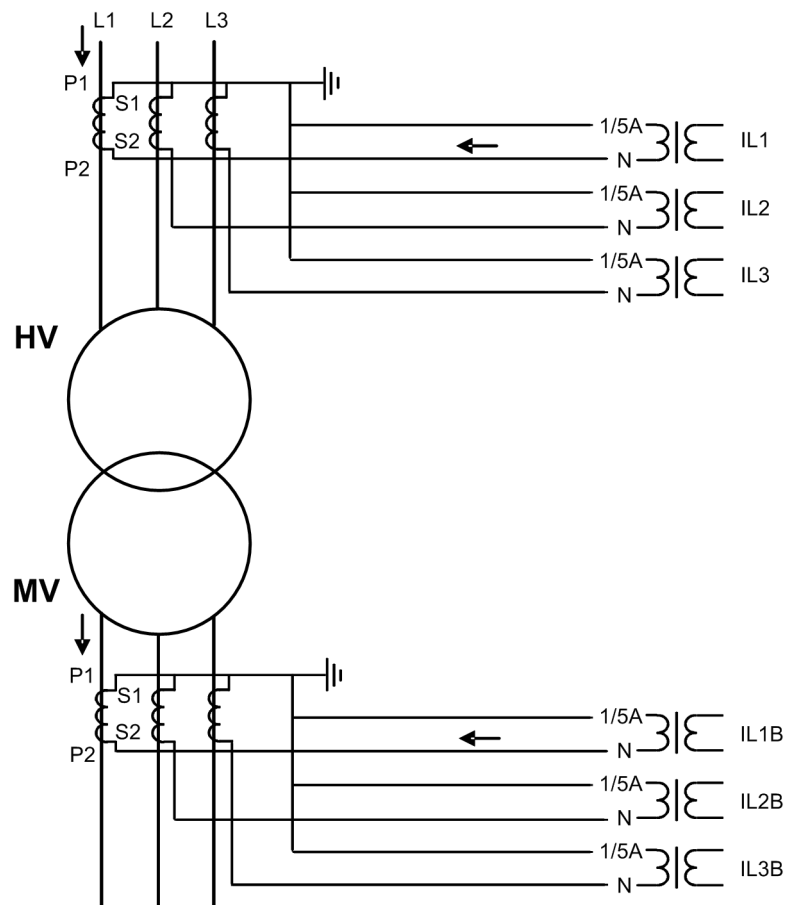
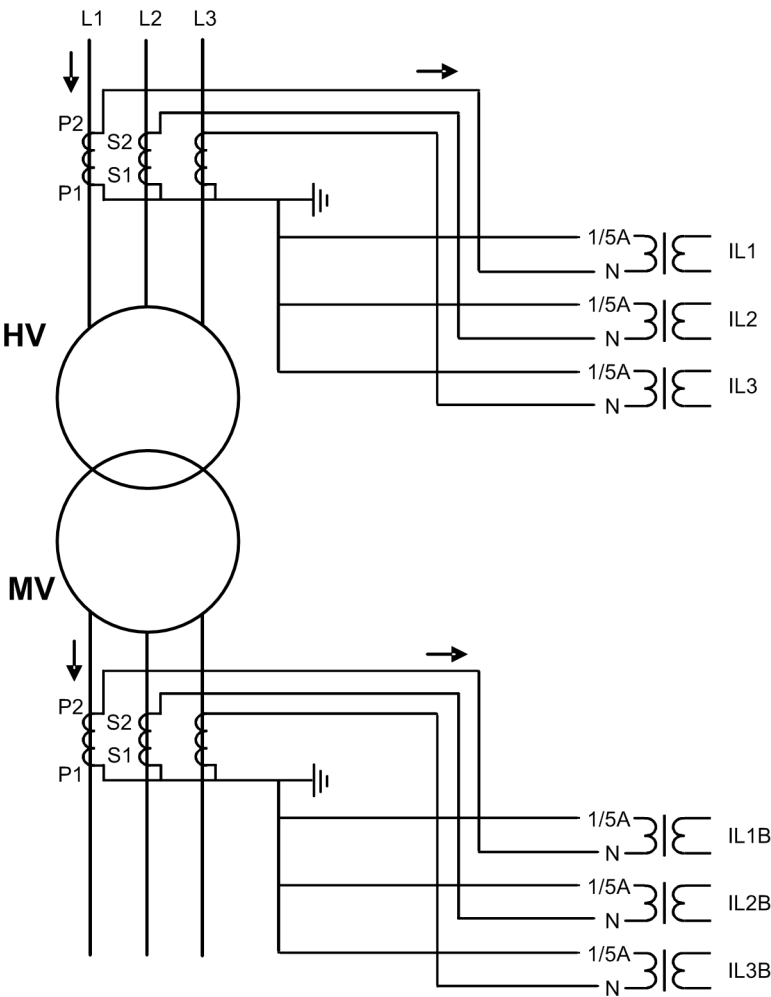

Figure 195: Connection of current transformers of Type 2 and example of the currents during an external fault
Figure 196: Alternative connection example of current transformers of Type 2
- If the positive directions of the winding 1 and winding 2 IED currents equate, the *CT connection type* setting parameter is "Type 2". The connection examples of "Type 2" are as shown in Figure 195 and Figure 196.